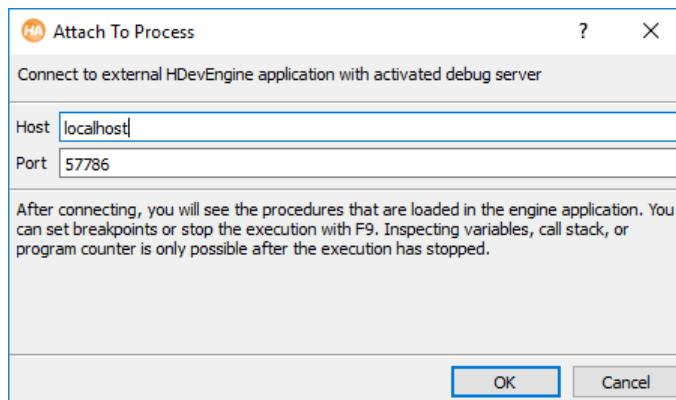

Figure 9.2: Attaching to an external application.
- Enter the host name and connection port (see figure 9.2), and, optionally, the password. The default host name (localhost) can be used if both the external application and HDevelop run on the same machine.